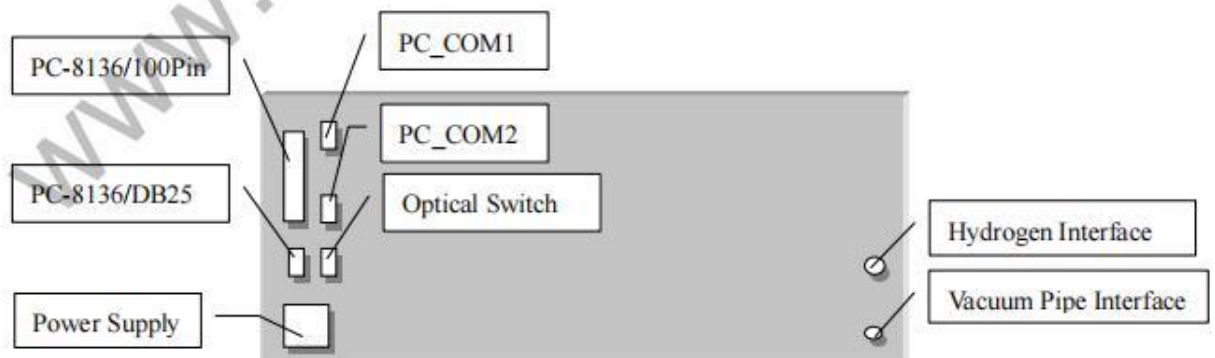

Figure 2: Connection the system
3.2.3 System connection please see figure 2, you may find the power supply cable in ST-2010 system packing.